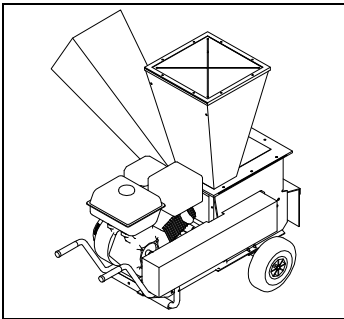

Fig. 15
- Remove the transmission belt casing as shown in fig. 15 .